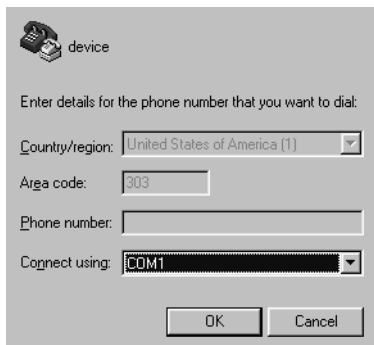

Figure 7: Device dialog box
5. Enter edge switch 2-12 in the **Name** field and click **OK**. The Device dialog box displays (Figure 7).